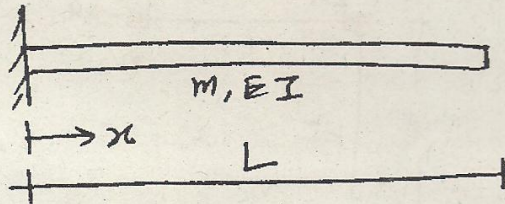

Fig. 7
14. (a) Find approximate solution for the first two natural frequencies and modes of lateral vibration of the uniform cantilever beam shown in Fig. 7, by Rayleigh-Ritz method using the shape functions  $\psi_1(x) = 1 - \cos \frac{\pi x}{2L}$  and  $\psi_2(x) = 1 - \cos \frac{3\pi x}{2L}$ .